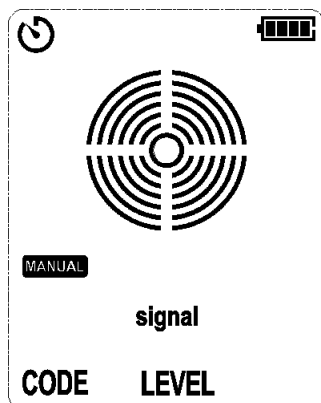

Figure 7.1.4a No Signal Detected
1. Short press the “AUTO/MANUAL” (mode) button and then the LCD shows “MANUAL”, as shown in Figure 7.1.4a.
- To obtain a best effect when tracking energized conductor, please align the dot screen printing (on the top of the sensor) to the direction of the conductor, as shown in Figures 7.1.4a and 7.1.4b. If not aligned properly, signal may not be detected or the code may be wrong. To check the direction of the cable, please rotate the receiver for 90 degrees regularly. The signal strength reaches its maximum when the cable is aligned with the dot screen printing. According to the differences of detected signals, the receiver automatically detects if the cable is energized (“⚡”), which will be displayed on the LCD. No need to perform manual setting.